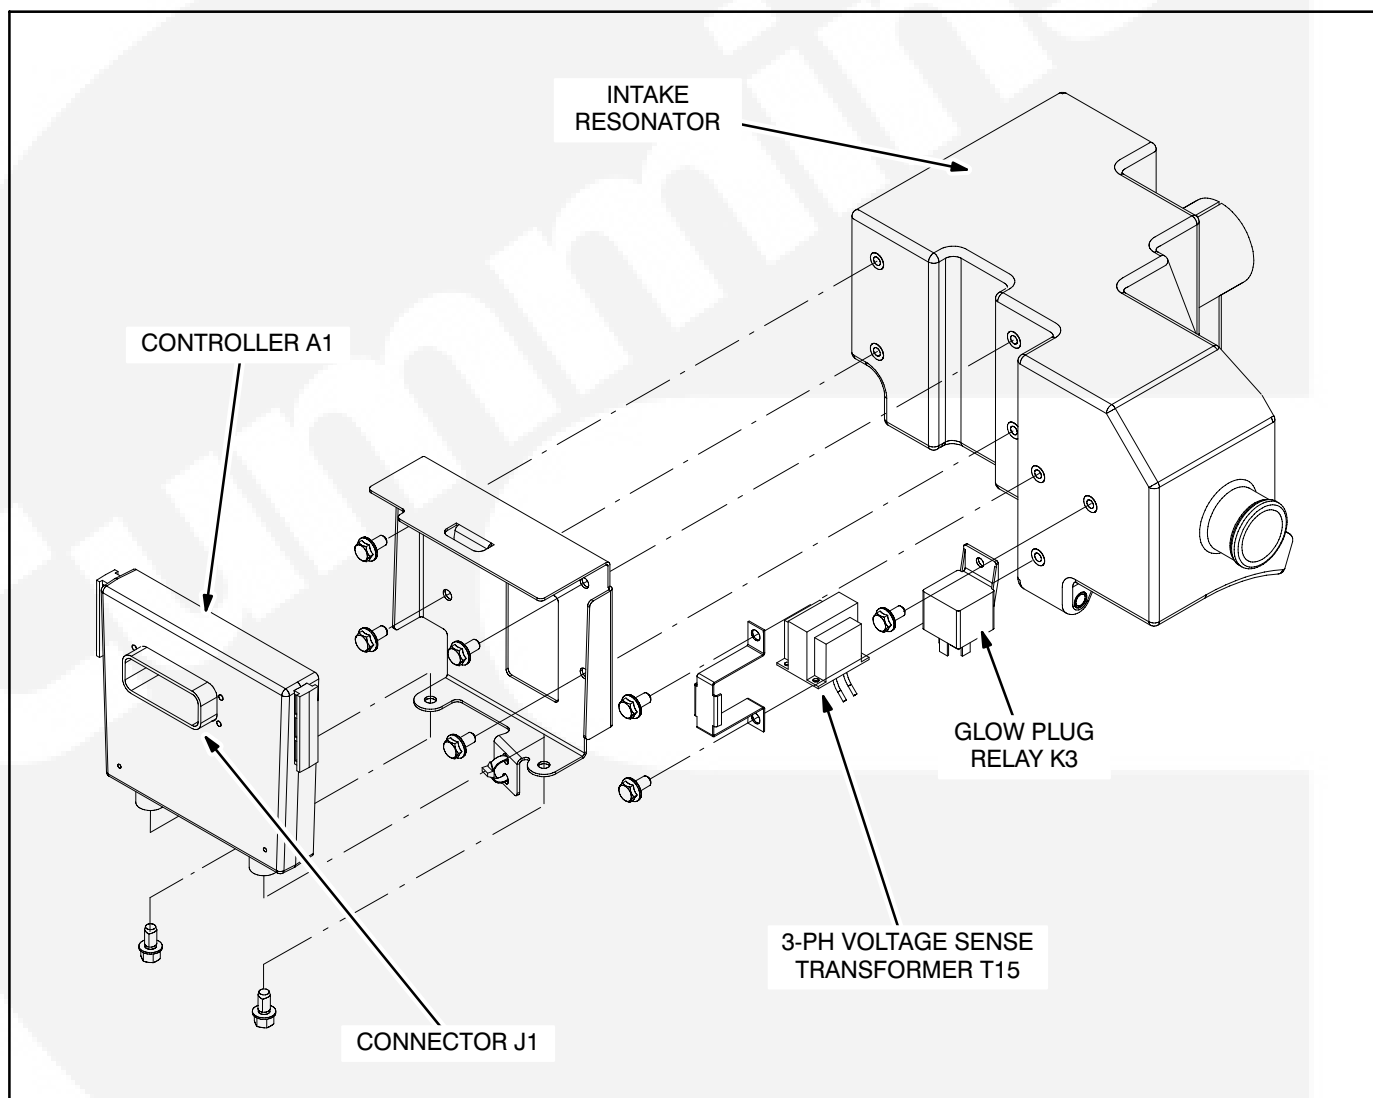

FIGURE 5-1. CONTROLLER A1
Controller A1 is an integrated microcontroller-based engine and generator control (Figure 5-1). It provides all the control, monitoring and diagnostic
The glow plug relay is mounted in its wiring socket on the intake resonator (Figure 5-1). Pull the relay out to test it. Apply 12 VDC across terminals 85–86. Replace the relay if the contacts across terminals 30–87 (NO) do not open and close.
**Mounting:** The voltage sense transformer for 3-phase generators is mounted on the intake resonator (Figure 5-1). It is connected as shown on Page A-2 to sense output voltage in L1.